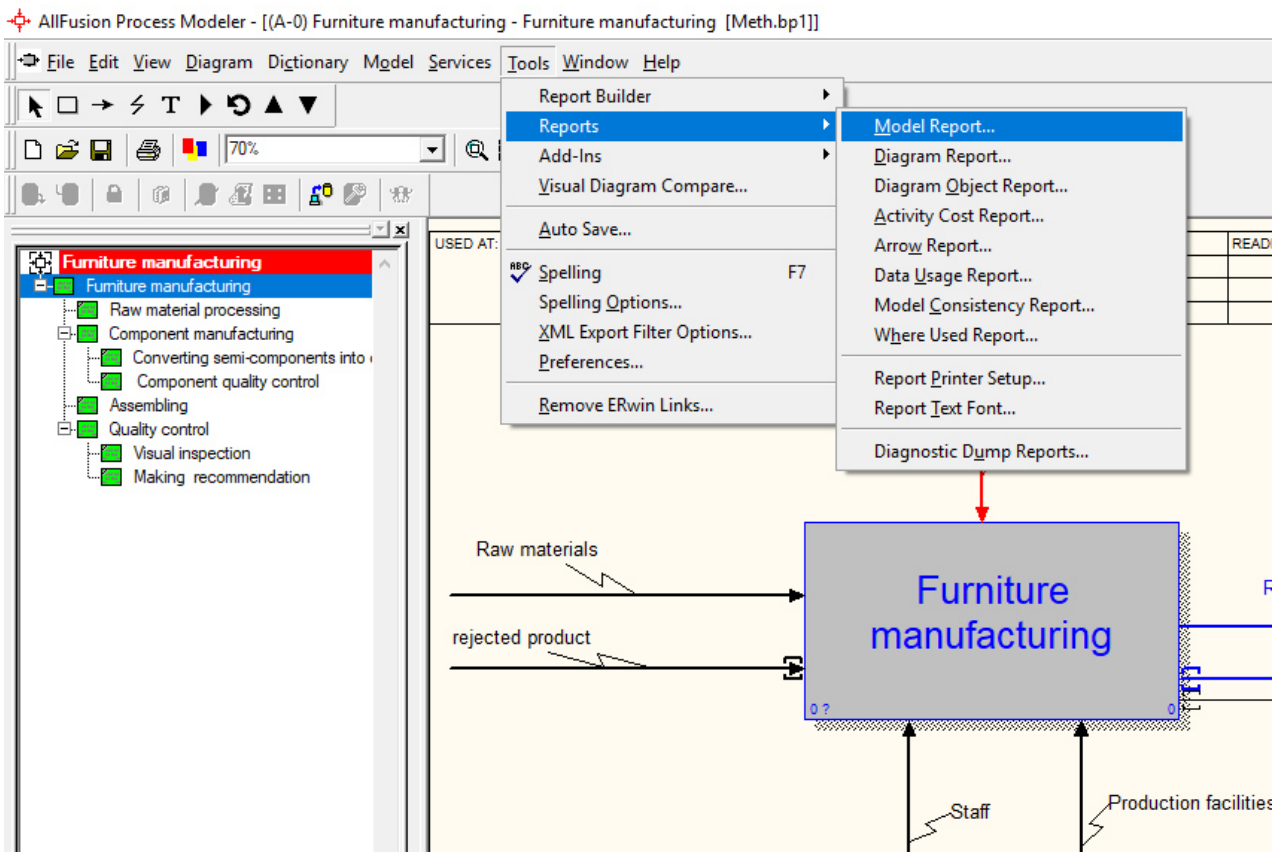

Fig. 3.9. The menu *Tools – Reports – Model Report*
1. Start the dialog window of the model report setting in the menu **Tools – Reports-Model Report** (fig. 3.9).